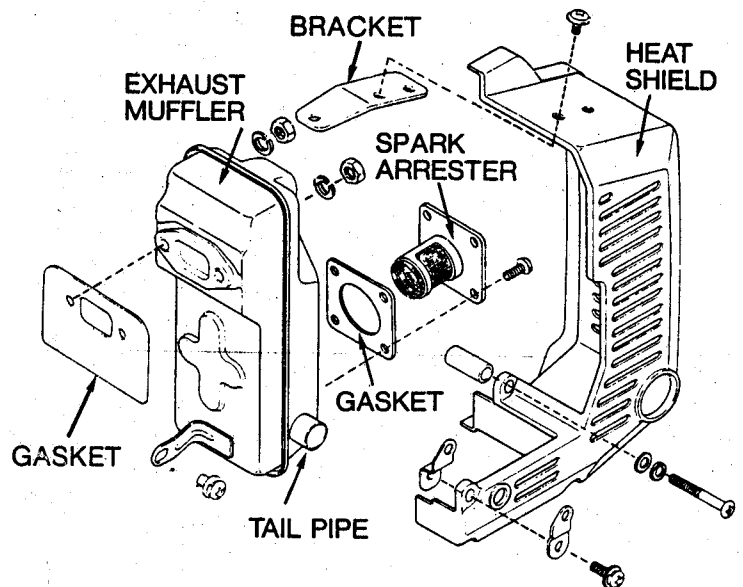

FIG. 10 -- MUFFLER/SHIELD DETAIL
**SERVICE** arrester after each 5 hours of operation. After muffler parts have cooled down, take the cover off the muffler and remove the spark arrester as shown in figure 10. Clean the arrester screen with a wire brush. Check to make sure screen has not deteriorated to the point where sparks could escape. Replace arrester and or gasket as needed. Reinstall components in sequence shown. **WARNING:** Never touch hot muffler or cover!